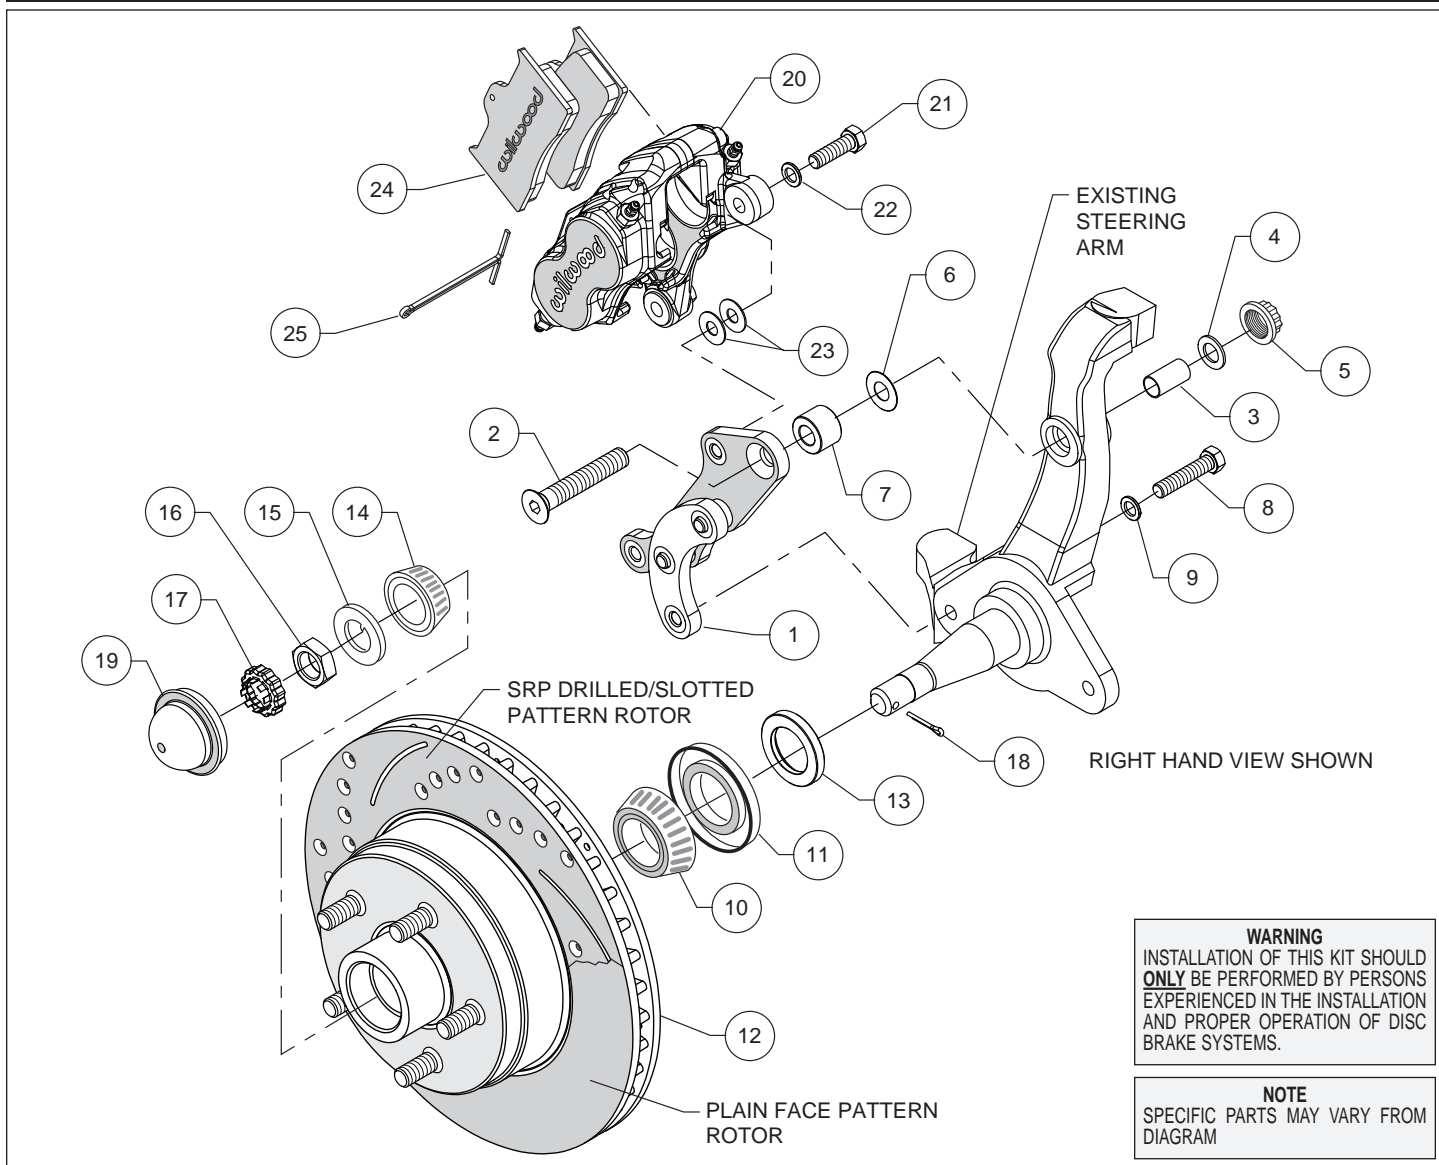
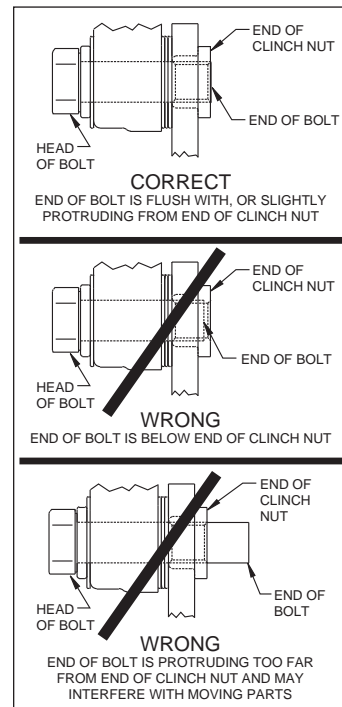

Figure 1. Typical Installation Configuration
Figure 3. Clinch Nut Engagement Diagram
Assembly Instructions (numbers in parenthesis refer to the parts list and Figure 1 on the preceding pages): **CAUTION:** All mounting bolts must fully engage clinch nuts. Be sure to check that all bolts are either flush or protruding through flanged side of clinch nut after shimming, Figure 3.
- The caliper bracket (1) should initially be installed with clean, dry threads on the mounting bolts. The bracket has been assembled at the factory for alignment purposes. Loosen the two bolts that secure the brackets together so that the bolts are hand tight only. This will enable the bracket assembly to be adjusted to accommodate various spindle tolerances during assembly. Insert sleeve (3) into top mounting hole on the spindle, Figure 1. Orient the bracket as shown in Figure 1 and install using bolt (2), washer (4), locknut (5), in the upper hole. Place a .711" thick spacer (7) positioned between the bracket and spindle, as shown in Figure 1 and Photo 1. Initially use one .032" thick shim (6) on the upper bolt between the bracket and spindle, Figure 1. Install bolt (8) and washer (9) in the lower hole, Figure 1. Temporarily tighten the mounting bolts, followed by the two bracket-to-bracket bolts. **NOTE:** The bracket must fit squarely against the mounting points on the spindle. Inspect for interference from casting irregularities, machining ridges, burrs, etc. Later, after the bracket alignment has been checked, the bolts will be secured using red *Loctite*® 271.
- Pack the large inner bearing cone (10) with high temperature disc brake bearing grease (available from your local auto parts store) and install into the backside of the hub (12), Photo 2.
- Install the grease seal (11) by pressing into the backside of the hub (12), flush with the end of the hub.
- Slide the hub/rotor spindle spacer (13) onto the spindle. Ensure the chamfered I.D. faces inward, Photo 3.
- Temporarily install the hub/rotor (12) onto the spindle. Check that the caliper mounting bracket (1) is aligned parallel to the rotor, Photo 4. If not, adjust by adding or subtracting shims (6) on the upper bolt between spacer and spindle, Figure 1. Once the bracket alignment is correct, torque the upper bolt locknut to 65 ft-lb. Remove the lower bolt, apply red *Loctite*® 271 to the threads, and torque to 40 ft-lb. Remove one at a time the bolts that secure the bracket assembly to each other, apply red *Loctite*® 271 to the threads and torque to 40 ft-lb.
- Remove hub/rotor and pack the small outer bearing cone (14) with high temperature disc brake bearing grease and install into the front side of the hub (12). Slide the hub/rotor onto the spindle. Secure using spindle washer (15), and spindle nut (16). Adjust bearings per OEM specifications. Install spindle nut retainer (17) and a new cotter pin (18), Photo 5.
- Press the dust cap (19) into the hub (12), Photo 6.
- NOTE:** Please reference the caution statement at the beginning of the assembly instructions. Mount the caliper (20) onto the caliper mounting bracket (1) using bolts (21) and washers (22), as shown in Figure 1. Initially place two .035" thick shims (23) on each bolt between the caliper and the bracket, Photo 7. Temporarily tighten the mounting bolts and view the rotor (12) through the top opening of the caliper. The rotor should be centered in the caliper, Photo 8. If not, adjust by adding or subtracting shims between the bracket and the caliper. Always use the same amount of shims on each of the two mounting bolts. **NOTE:** The end of each bolt must be flush with or slightly protruding from the head of the clinch nut, as shown in Figure 3. If necessary place spare shims between washer (22) and caliper mounting ear to achieve the proper clinch nut engagement. Once the caliper alignment and clinch nut engagement are correct, remove the bolts one at a time, apply red *Loctite*® 271 to the threads, and torque to 40 ft-lb.
- Install the disc brake pads (24) into the caliper, with the friction material facing the rotor (12), Photo 9. Secure in place using cotter pin (25), Photo 10.